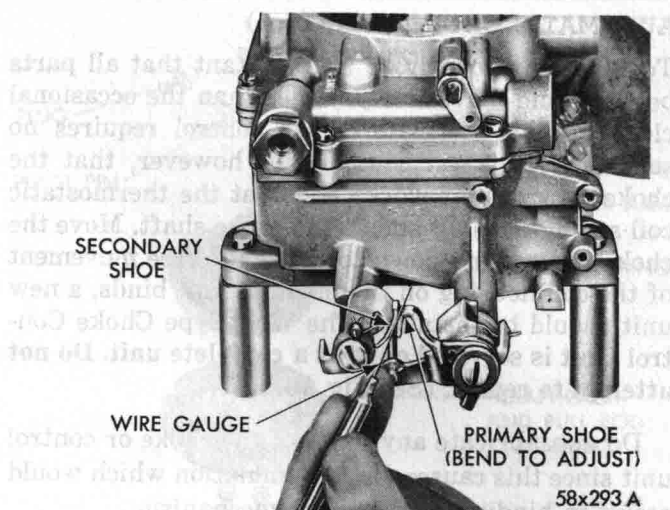

Fig. 74—Checking Clearance Between Closing Shoes
(4) If an adjustment is necessary, bend the secondary throttle operating rod at the angle, using Tool T109-213, until correct adjustment has been obtained.
(5) At wide open throttle, the primary and secondary throttle valves should reach the full vertical position.
(6) With the primary and secondary throttle valves in the tightly closed position, it should be possible to insert Tool T109-29 (.020 inch) wire gauge, between the positive closing shoes on the secondary throttle levers, as shown in Figure 74.
(7) If an adjustment is necessary, bend the shoe on the secondary throttle lever, using Tool T109-22, until correct clearance has been obtained.